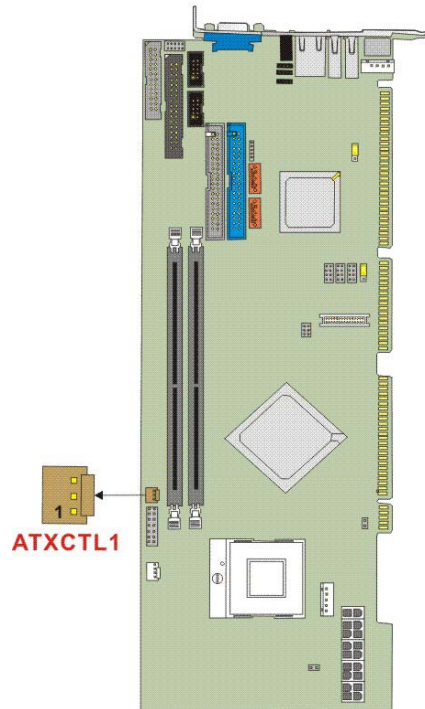

Figure 3-3: ATXCTL1 Connector Location
- CN Location:** See Figure 3-3